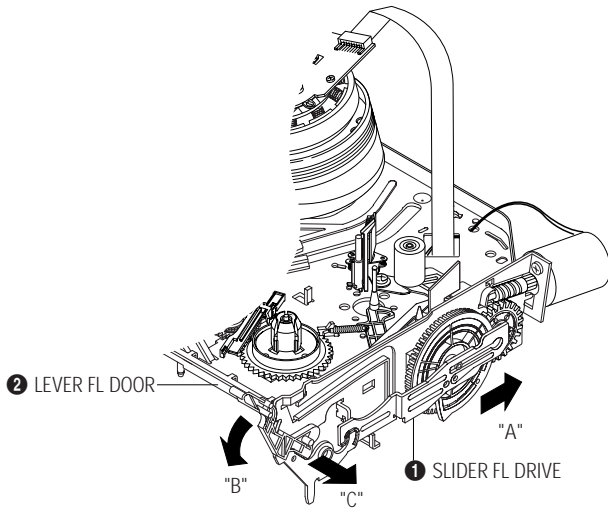

Fig.4-13 Lever FL Door Removal
- 1) Pull the Slider FL Drive ❶ to the front direction.
- 2) Remove the Slider FL Drive ❶ in the direction of arrow. (Refer to Fig. 4-13)
- 3) Remove the Gear FL cam ❷.